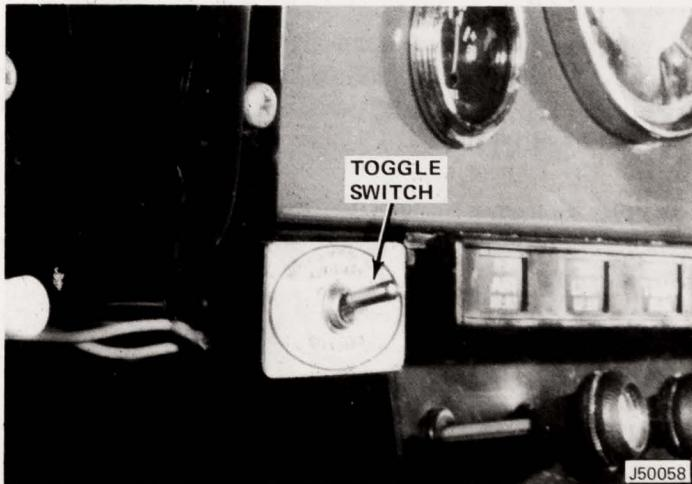

Fig. 1-18 Toggle Switch Installation
(8) Cut leads to dimmer switch and install tap connectors in four places.
(9) Connect four leads to toggle switch.
(10) Position toggle switch bracket in a suitable location on bottom edge of instrument panel (fig. 1-18). Drill holes and install bracket with self-tapping screws.
(11) Affix decal to face of mounting bracket and install toggle switch.
(12) Tape all connections in wiring installation.
(13) Connect negative battery cable and test installation.